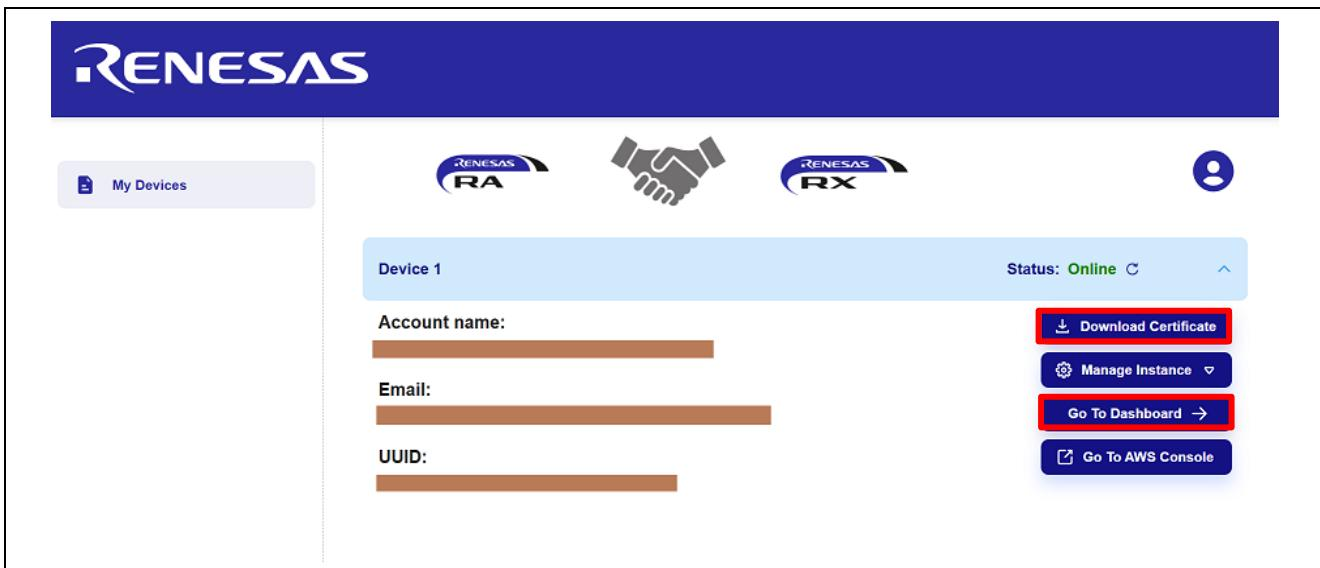

Figure 40. Completing Device Provisioning
2. Please unzip the `cert.zip` from the dashboard (downloaded at **Figure 40. Completing Device Provisioning**)